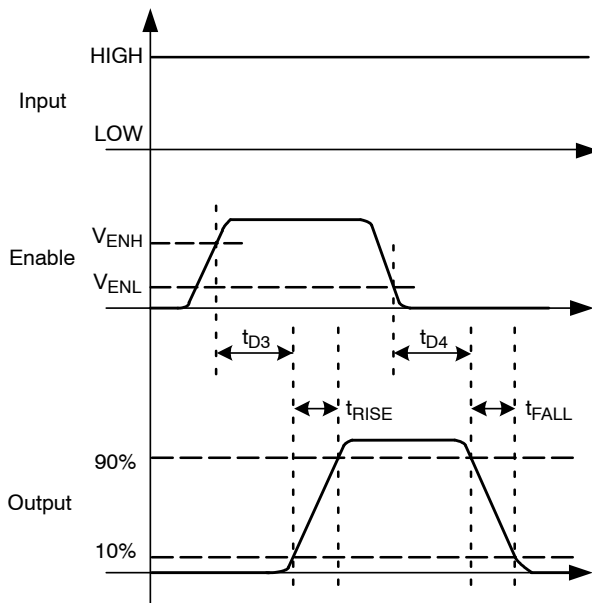
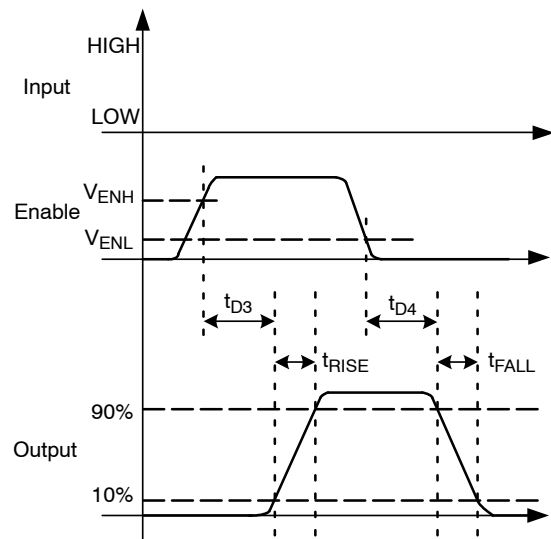

Figure 9. Non-Inverting (IN HIGH)
Figure 10. Inverting (IN LOW)
- 11. See Timing Diagrams of Figure 9 and Figure 10.